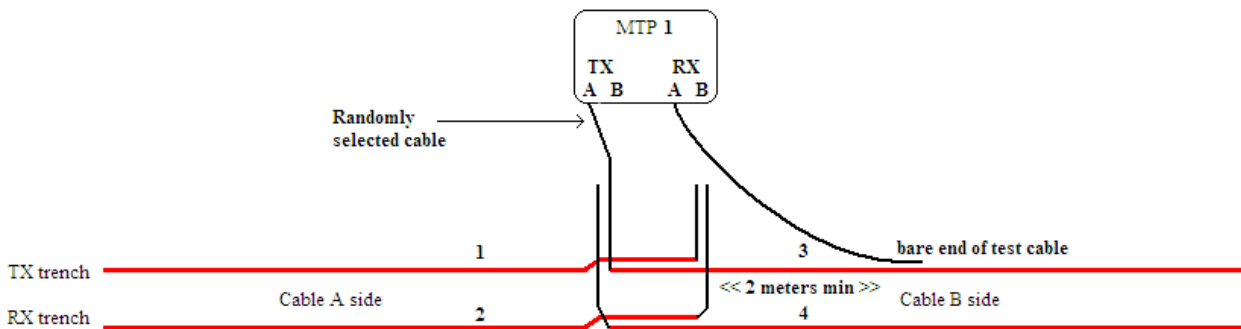

Figure 5
- Connect the Test Cable to the RX A port of the MTP II. This Test Cable will act as the receive antenna for the MTP II. Take the free end of the Test Cable and lay it over the top of one of the four MicroTrack cable trenches. Stretch the Test Cable out to its maximum length to be sure that it is **outside** of the startup overlap area by at least 6 ft (1.8 m) as shown in Figure 5.